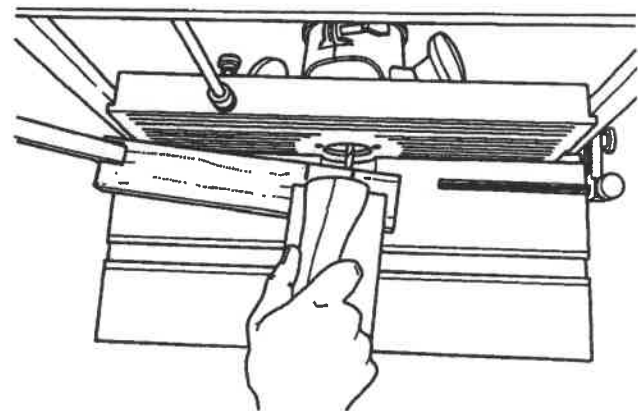

Fig. C-15
19. Use a push stick and push block to hold the left end of workpiece "B" against the slide and right end in front of the bit, but not touching it, as in Fig. C-15. Do not move the workpiece with the rotation of the bit, because kickback may occur. When you plunge workpiece "B" into the bit, it will give you a straight plunge cut by the time the the right end contacts the slide. Finish the mortise cut by moving workpiece "B" until it touches the stop rod.